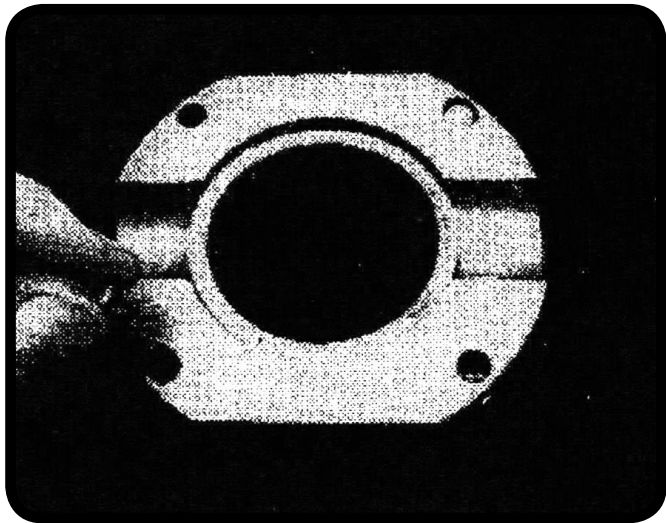

Figure 5
2. Place a shear pin into each window hole. It should be about flush (**Figure 5**).
3. Place a spacer into the center of each driver as seen in **Figure 5**, (wide end toward the teeth if the spacer is not symmetrical).